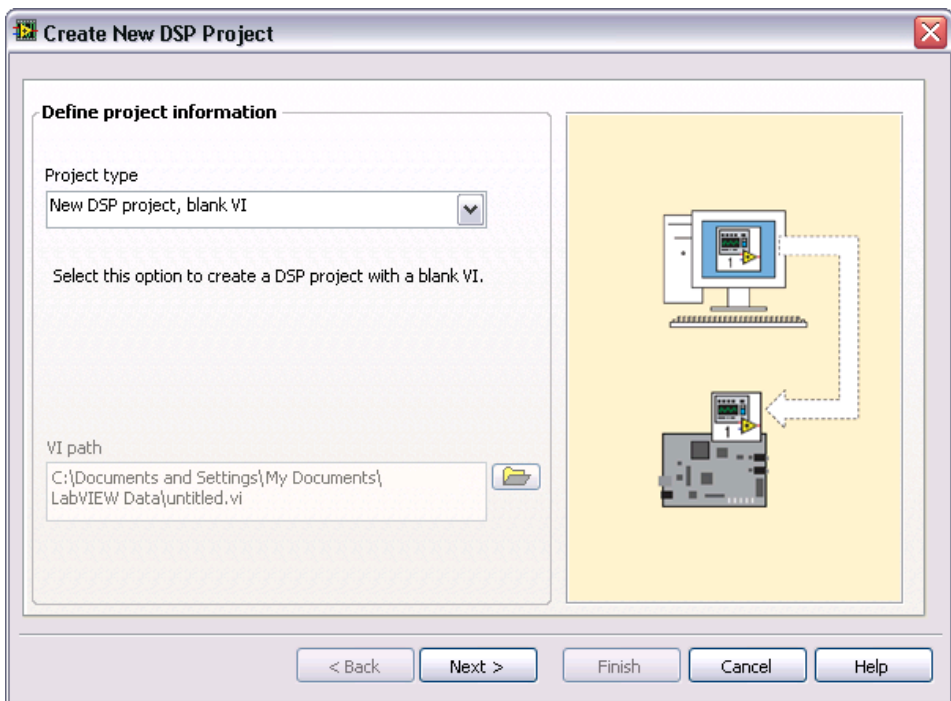

Figure 8. Creating a New Project with a New VI
3. Select the **New DSP project, blank VI** from the **Project type** pull-down menu on the **Define project information** page, shown in Figure 8, to create a new project with an empty VI.